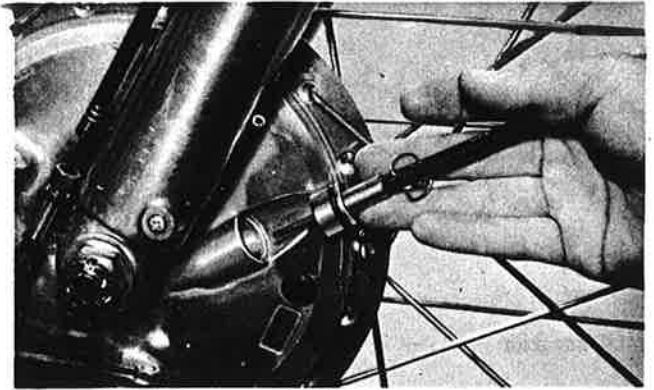

Fig. 5-1-3
3. Disconnect the speedometer cable from the front wheel backing plate. (Fig. 5-1-3)